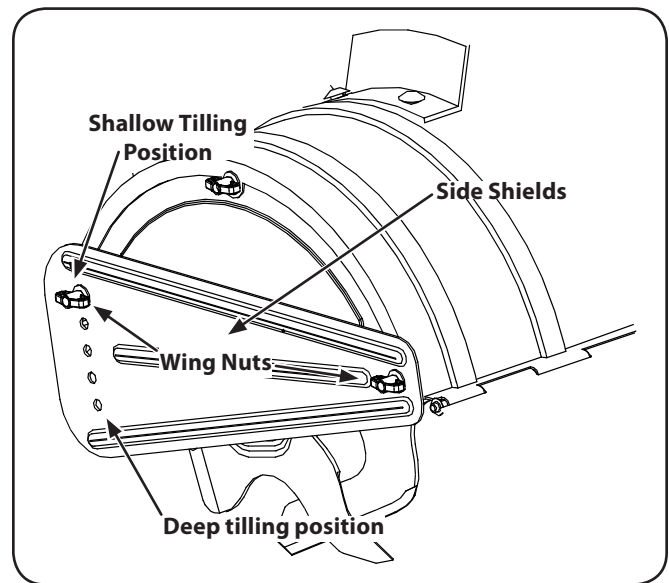

Figure 5-2
7. To adjust the side shields on models so equipped, remove the wing nuts. Move the side shield to the desired position and replace the wing nuts. Tighten securely. See Fig. 5-2.